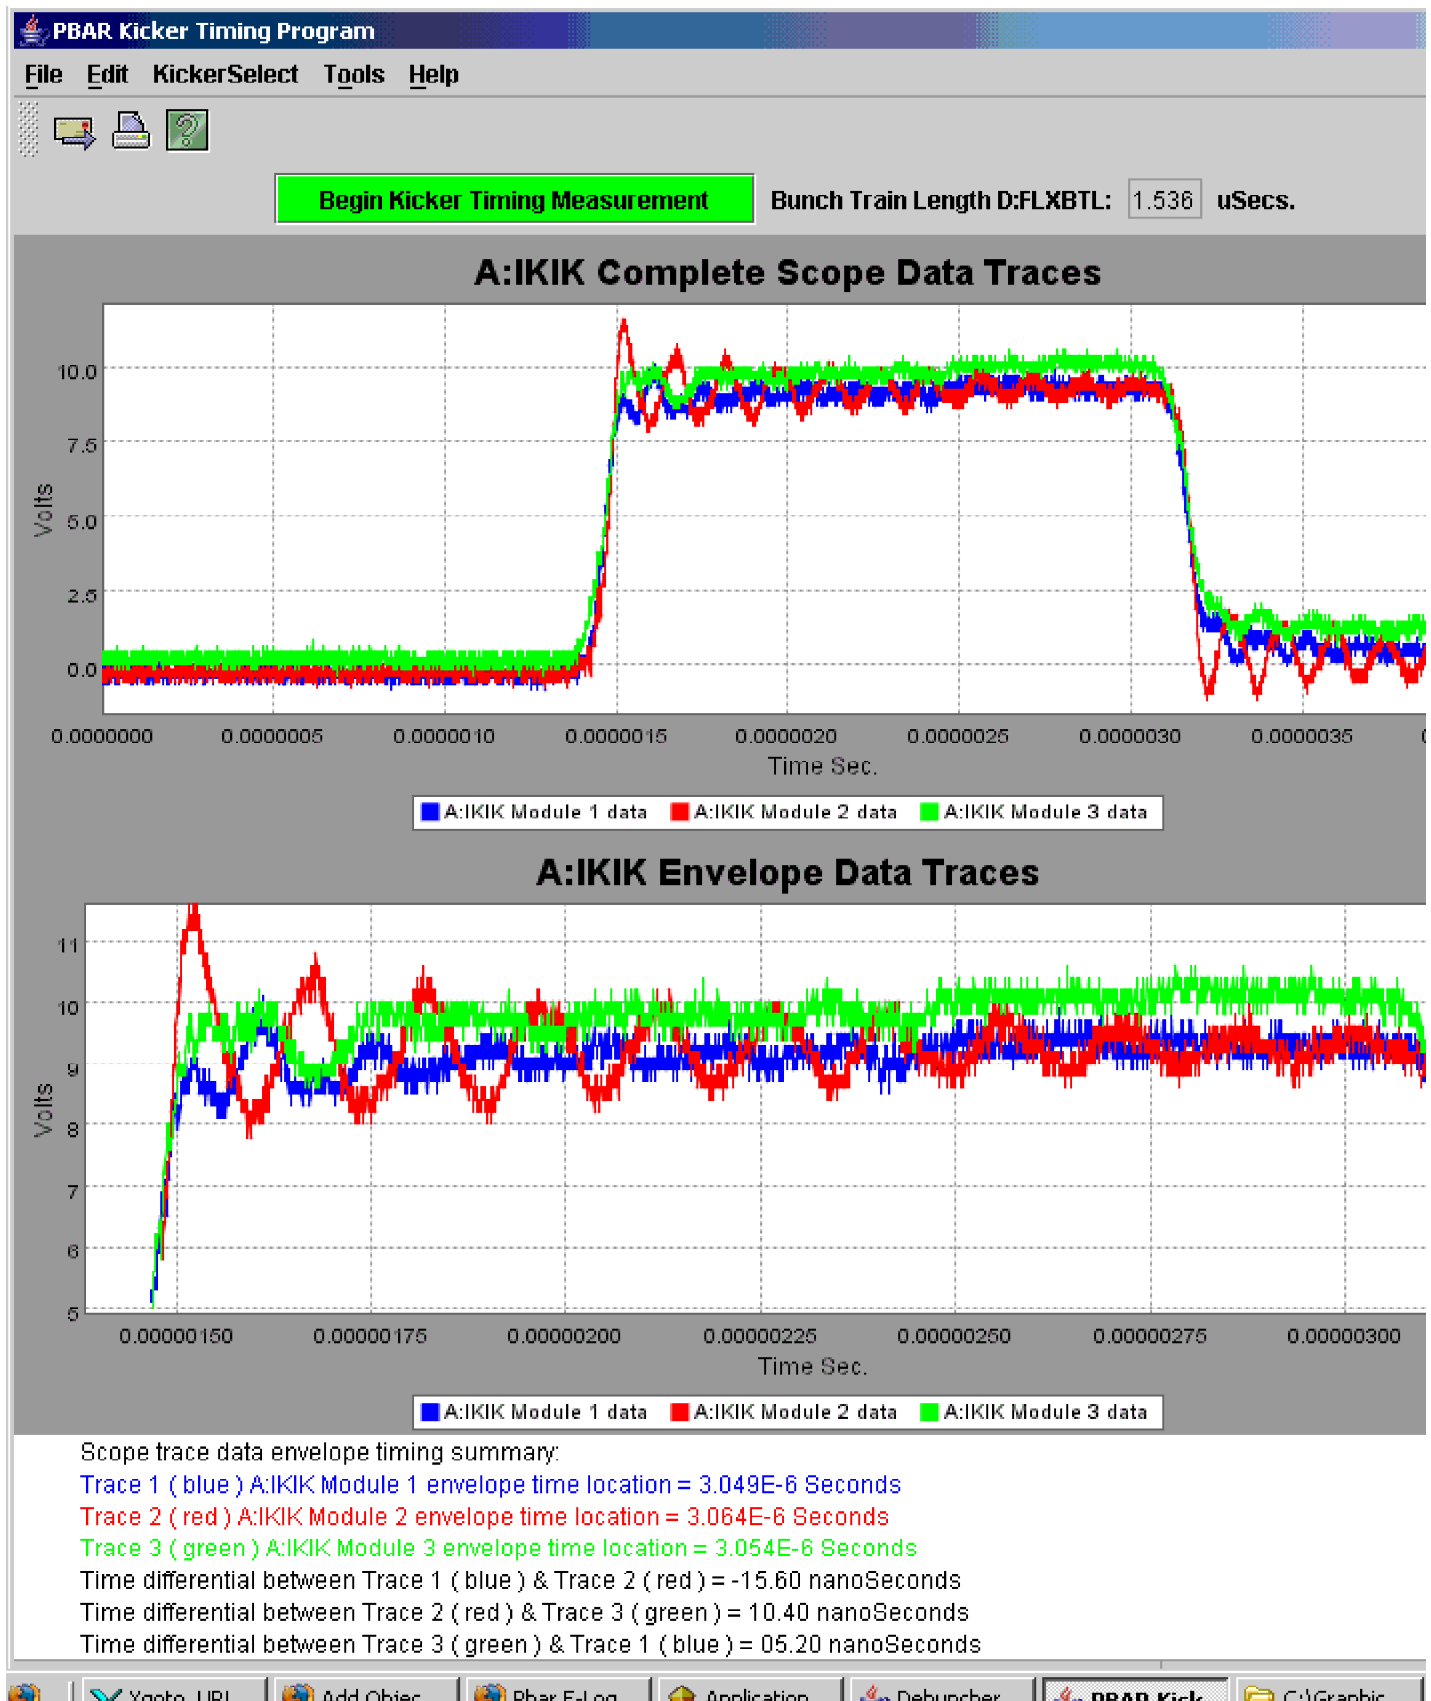

Figure 32:
12. Click on the green box that is labeled "Begin Kicker Timing Measurement" as shown in Figure 32. D:FLXBTL is used for Debuncher injection and can be ignored in this portion of the procedure.